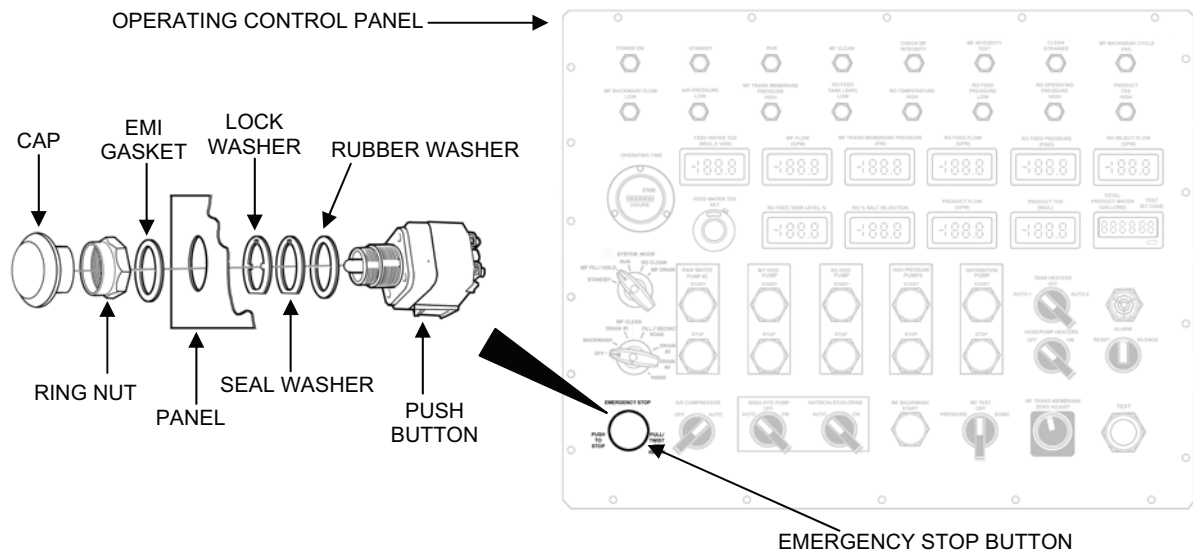

Figure 11. Emergency Stop Button Replacement.
1. Remove the emergency stop push button as follows (see Figure 11):